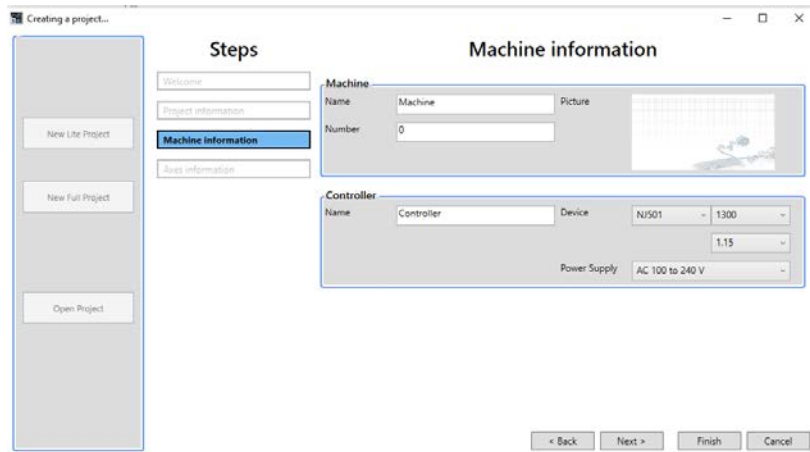

Fig. 8 Machine information Window
- **Machine information Step**: request information of machine, device model and version of the controller and the type of power supply. An available list of controllers is displayed. The generic model can be selected when a third party controller is used. Each machine is associated to one controller. See Fig. 8. This step is by-passed for Lite projects.